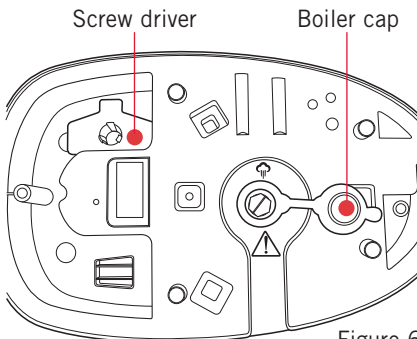

Figure 6
4. Use the screw driver provided to slowly release the boiler cap. See fig 6.